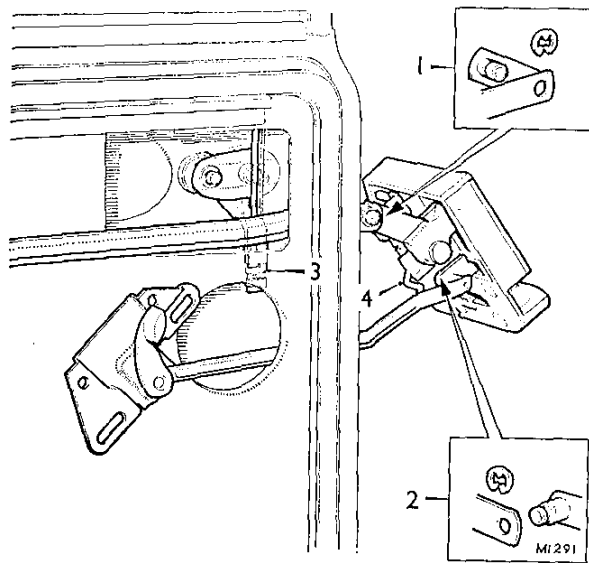

Fig. Rb.6
- (4) Pull or carefully prise the bottom of the key-operated lock link (3) off the latch locking rod (4) (see Fig. Rb.6).
- (5) Ease the latch outwards, remove the circlips securing the remote control (1) and the interior locking lever (2) to the latch (see Fig. Rb.6) and withdraw both units and the latch from the door frame.
- (6) Reverse the removing procedure, with particular attention to the following instructions.
- (7) Refer to Fig. Rb.6. Ensure that the circlip securing the remote control lever (1) and the interior lock control lever (2) are correctly located, and that the latch locking rod (4) is engaged in the spring clip of the exterior handle lock link (3).
- (8) Check the adjustment of the push-button plunger; see 'Adjustments' in Section Rb.5.
- (9) Refit or fit new adhesive sealing strips to the door panel. Check the door lock operation before refitting the trim panel.
- (10) The door striker-plate can be repositioned if required, see 'Adjustments' in Section Rb.5.